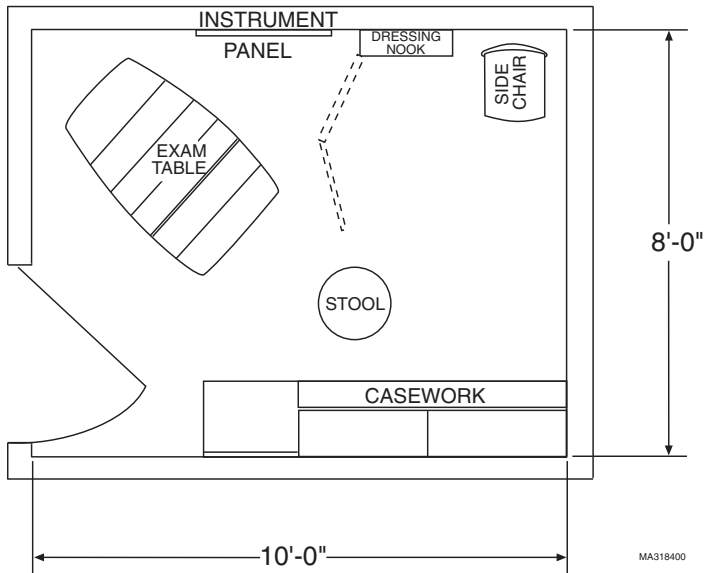

FIGURE 1. SUGGESTED ROOM LAYOUT
The Dressing Nook and Instrument Panel are mounted to the wall using steel mounting brackets (provided with units). Wall anchors and drywall screws are also provided to secure the Dressing Nook mounting brackets to the wall. Figures 1 thru 5 are suggested mounting configurations and locations only.
1. Using the customer or room layout drawing, determine where the Dressing Nook and / or Instrument Panel are to be located. See Figure 1 for the suggested room layout.